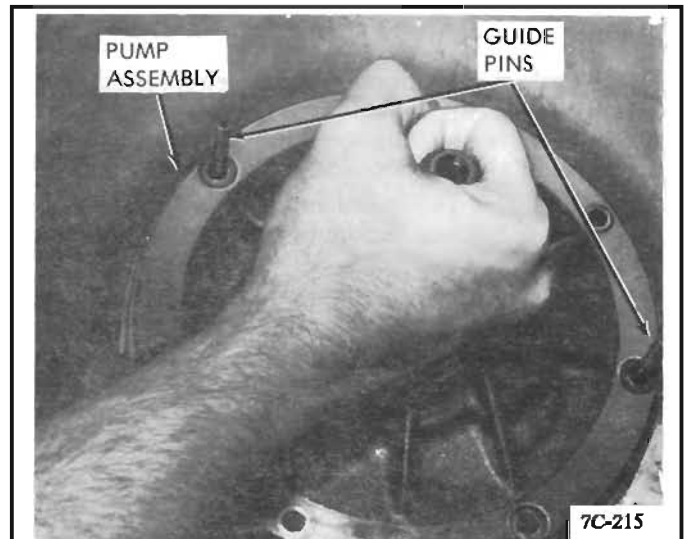

Figure 97 Pump Installation
3. Install guide pins into case. Install pump assembly into case, remove guide pins and install pump to case bolts. Using new washer type seals tighten alternately to 20 ft. lbs. (27 N*m) torque. *See Figure 97.*